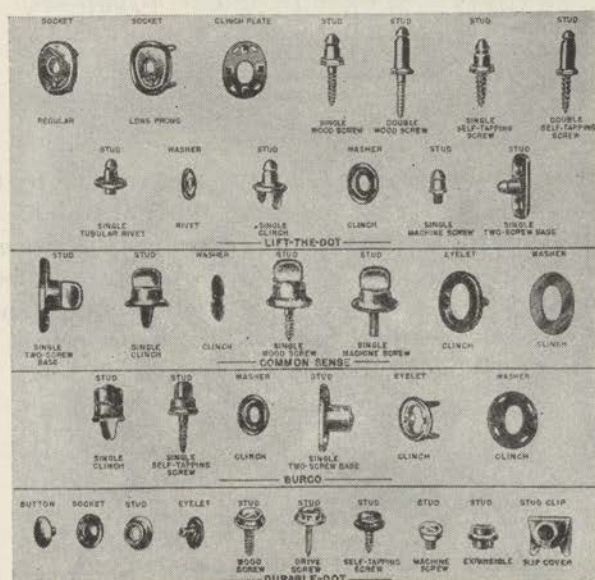

FIGURE 77.—Four types of fasteners.
p. Fasteners (fig. 77).—Fasteners of four types—lift-the-dot, common-sense, Burco, and durable-dot—are used. Burco or common-